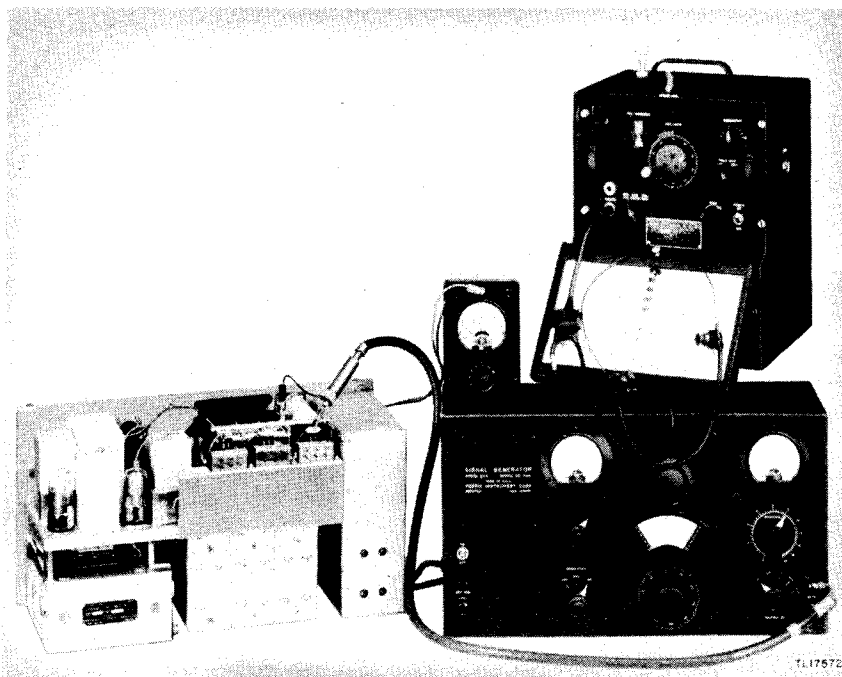

Figure 76. Typical test set-up for receiver r-f alignment.
b. PREPARATION. Set up the receiver and alignment equipment as shown in figure 76. Calibrate the signal generator for a 2,900-kc signal (h-f model) or for a 255-kc signal (m-f model) as described in paragraph 84. Set the receiver BAND CHANGE switch to Band A, the OFF-M.V.C.-A.V.C. switch to M.V.C., the C.W.-OSC. switch to OFF, the CRYSTAL PHASING control to OUT (h-f model), and the VOL control to maximum. Set the receiver dial to 2,900 kc (h-f model) or to 255 kc (m-f model). Remove the shield plate covering the r-f amplifier and mixer adjustment screws on the rear of the chassis, and loosen the adjustment screw locknuts.